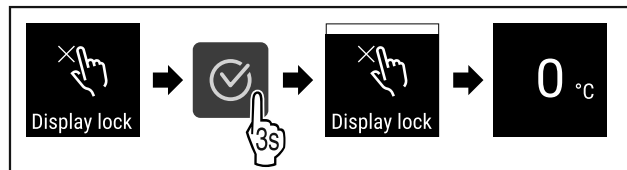

Fig. 67
- Complete steps (see Fig. 67) .